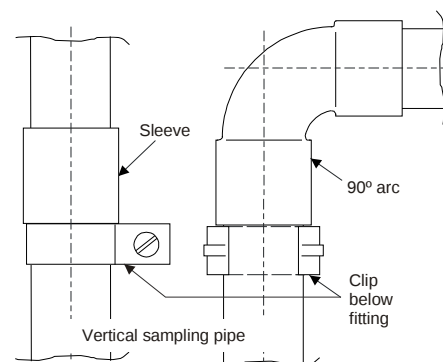

Fig. 23 Vertical sampling pipe
- For vertically arranged sampling pipe or parts thereof (e.g. in a riser or high-rack storage building) make certain that the tubes cannot slide down (fasten clips directly under fittings as shown in **Fig. 23**).